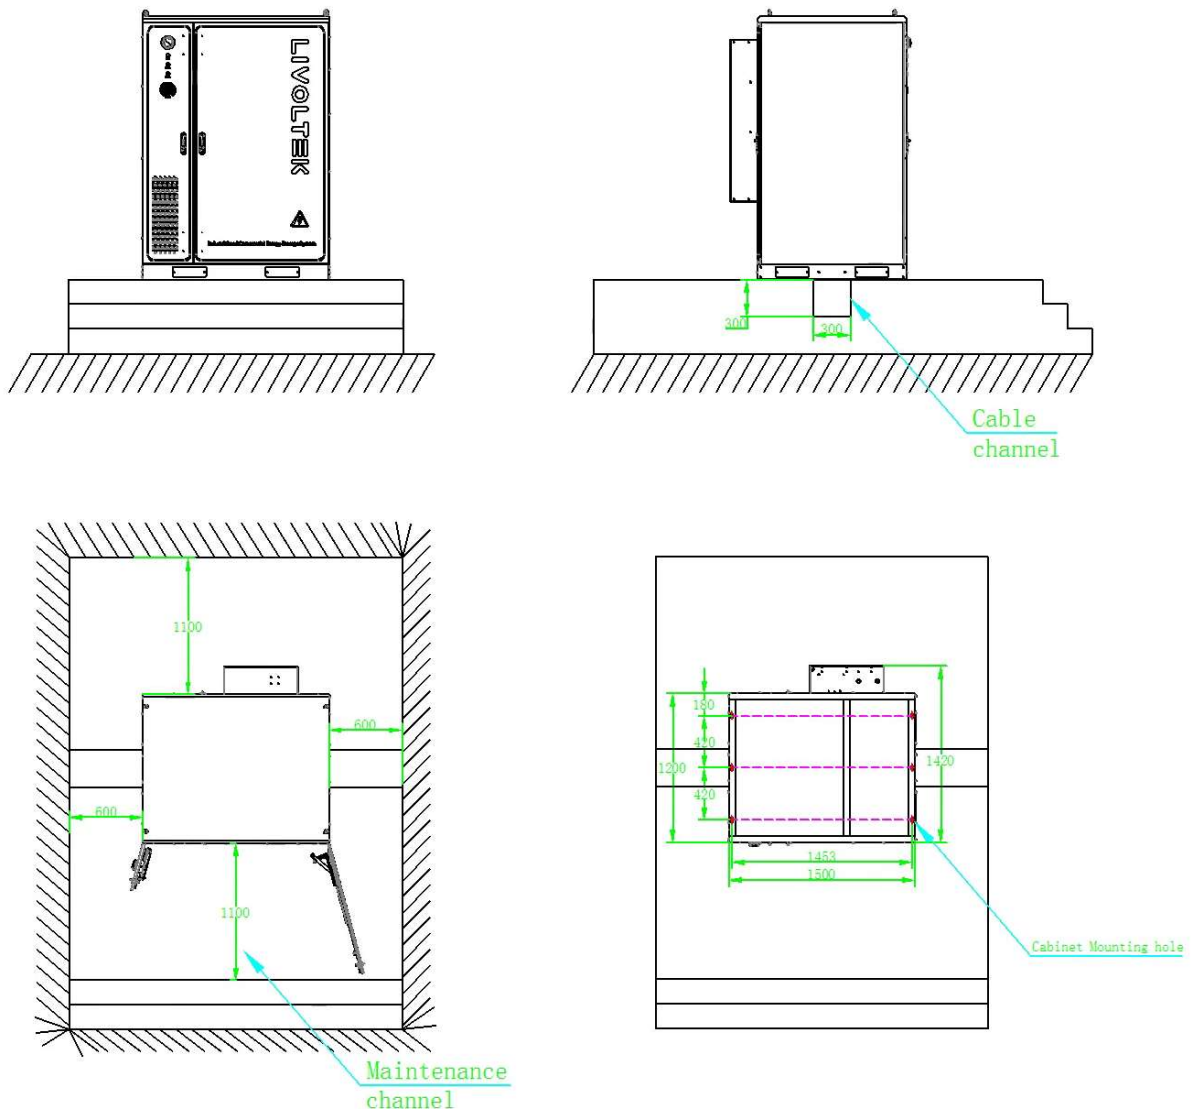

Figure 3.2 Base reference drawing (actual external dimensions of the equipment are subject to shipment)
- According to the product size in advance to select the equipment installation location, good positioning and fixing; recommended foundation as shown in Figure 3.2.
- 3) Drill holes ($\phi 13\text{mm}$) with reference to the hole distances shown in Fig. 3.2, then nail expansion bolts (M12X120) into the drilled holes, remove the nuts on the expansion bolts, and position the equipment on the foundation with a forklift truck so that the equipment fixing holes are aligned with the pre-buried expansion bolts on the foundation, and tighten the nuts.